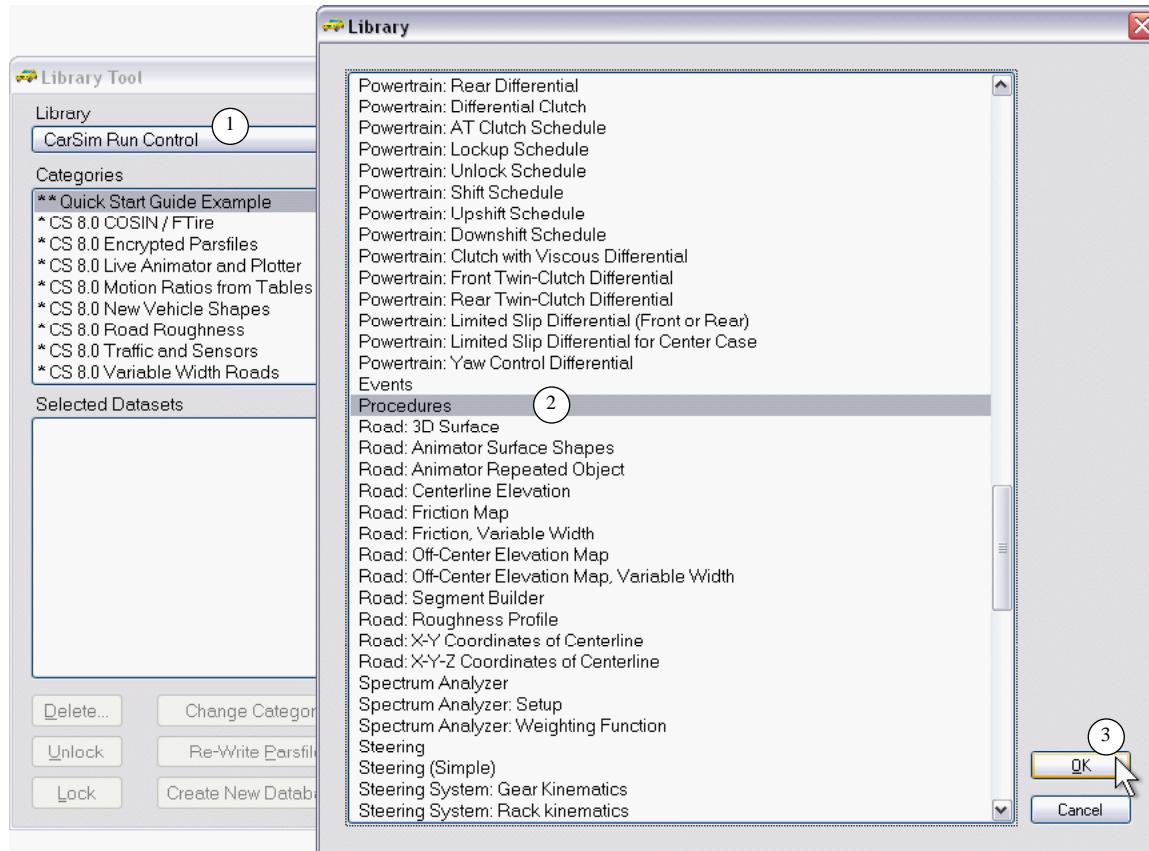
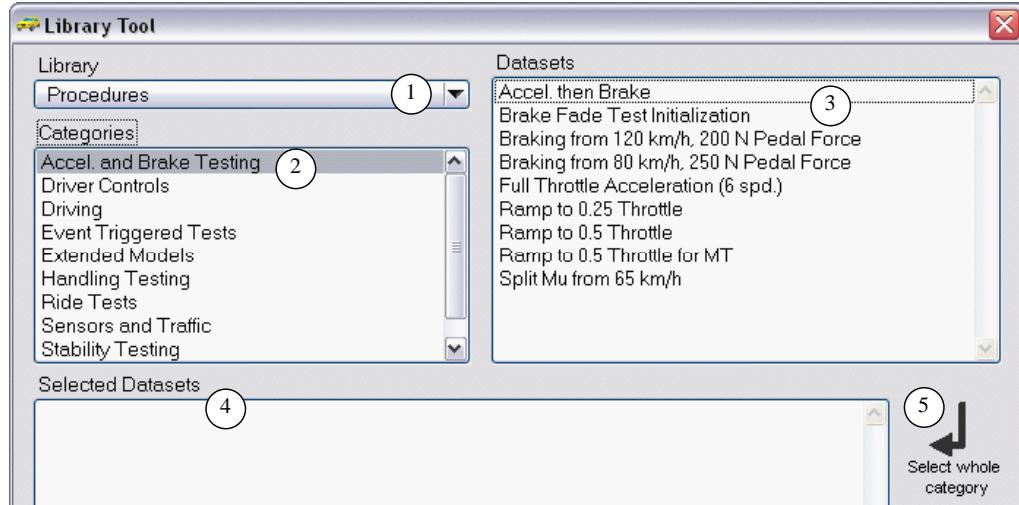

Figure 79. Choose a library for use in the in **Library Tool**.
Figure 80. Datasets in the category **Accel. and Brake Testing**.
2. Press the **Library** drop-down control ① (Figure 79). A scrollable list immediately appears; choose the library **Procedures** ② and click the **OK** button ③. The **Library** control should now display the name **Procedures** ① (Figure 80).